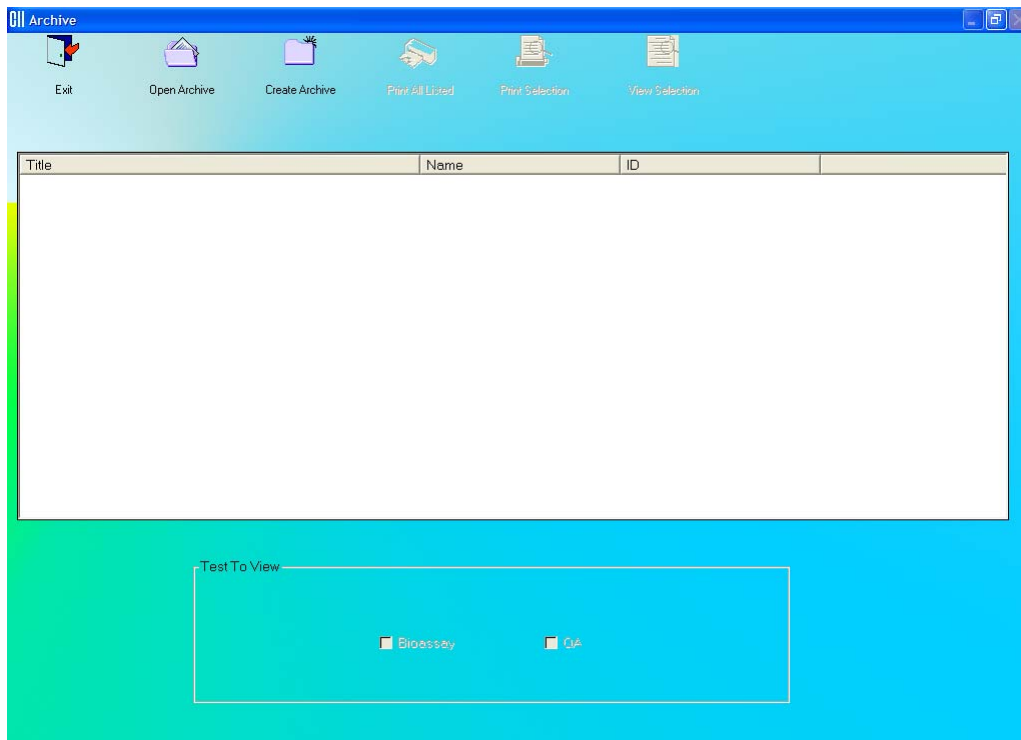

Figure 11-1 Main Archive Screen
To access the Archive module, click the  button or press *Alt+A* on the Absorbed Dose ALERT System Main screen. Figure 11-1 Main Archive Screen will appear.
3. Click the  button or press *Alt+S* to create the archive or click the  button to return to Figure 11-1 Main Archive Screen without creating an archive. Once an archive has been created, all the data collected in all the test modules will be saved under the given file name and folder. After returning to Figure 11-1 Main Archive Screen, archived data will appear in the box.
3. To return to Figure 11-1 Main Archive Screen without opening any file, click the  button or press the *Esc* key.
7. To return to Figure 11-1 Main Archive Screen, click the  button or press *Alt+X*.
- For a quick print of the selection without viewing the detailed report on the screen, click the  icon at the top of Figure 11-1 Main Archive Screen.